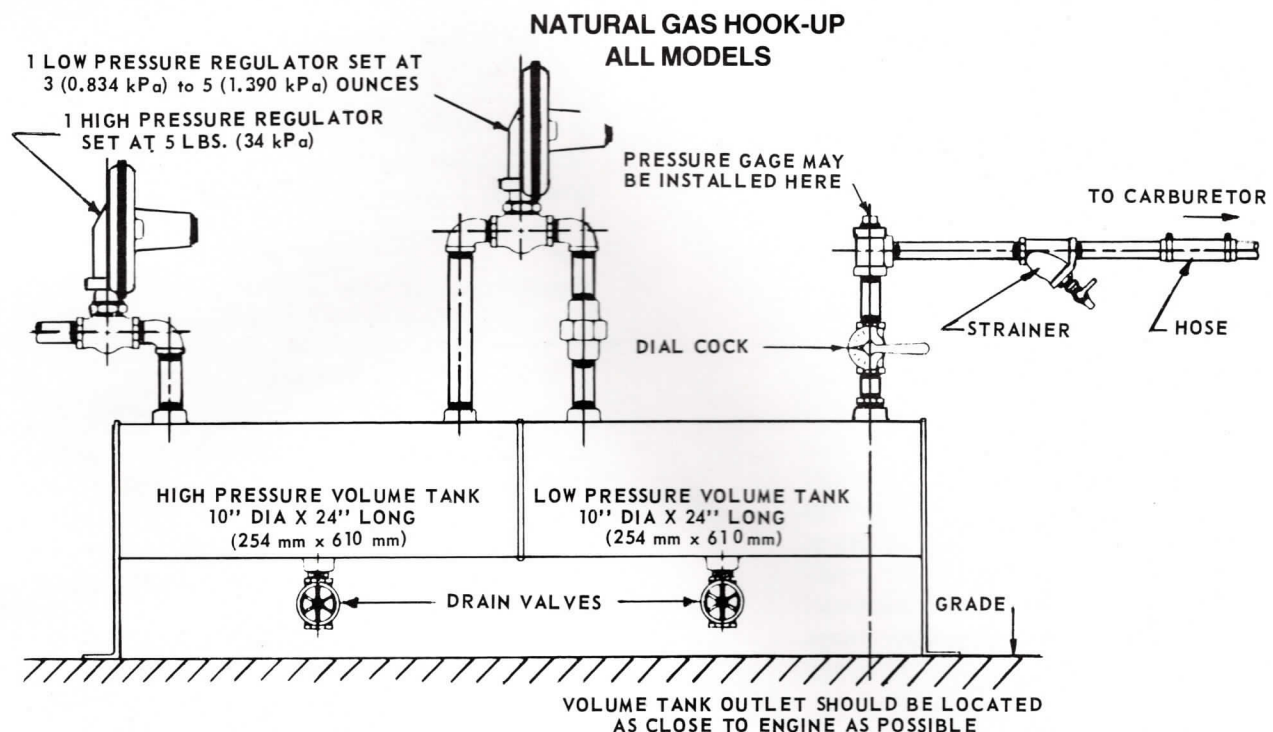

FIGURE NO. 19
1. Always use volume tank in gas supply line and have connection from volume tank to carburetor inlet as short as practical. Use flexible hose or flexible coupling in line from volume tank to carburetor. See Figure No. 19.